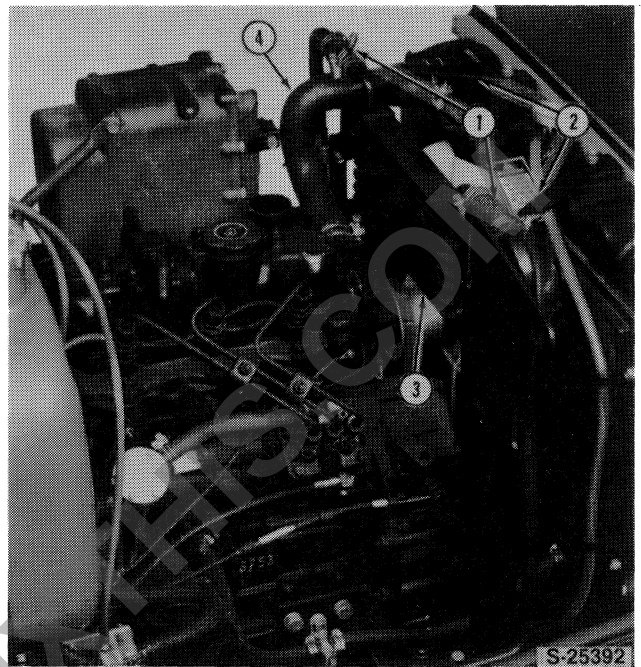

Figure 4
10. Remove the upper radiator hose (4), Figure 4.
3. Remove the transmission oil cooler (3) and cap all openings, Figure 4.